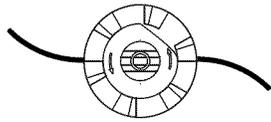

Fig. 21
3. Remove any old line from the inner reel or obstructions from the outer spool. (Fig. 21)